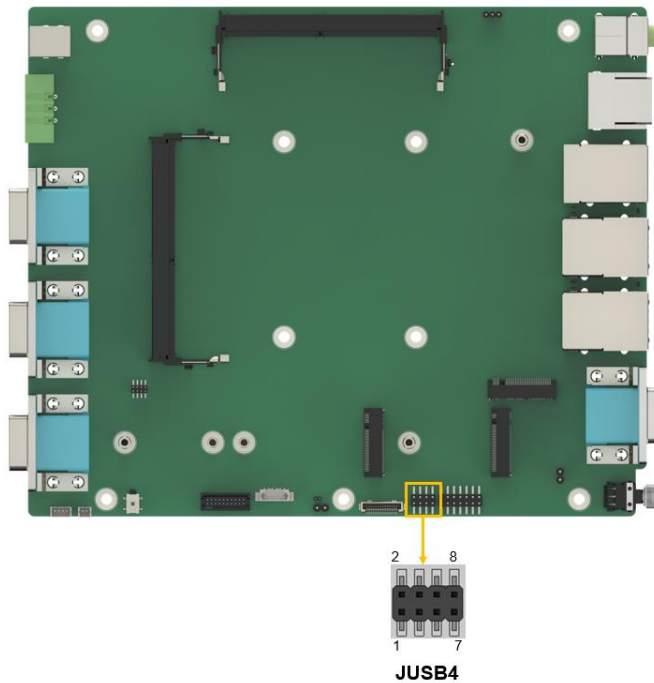

Figure 4-14: Internal USB 2.0 Connectors Locations
- CN Location:** See **Figure 4-14**